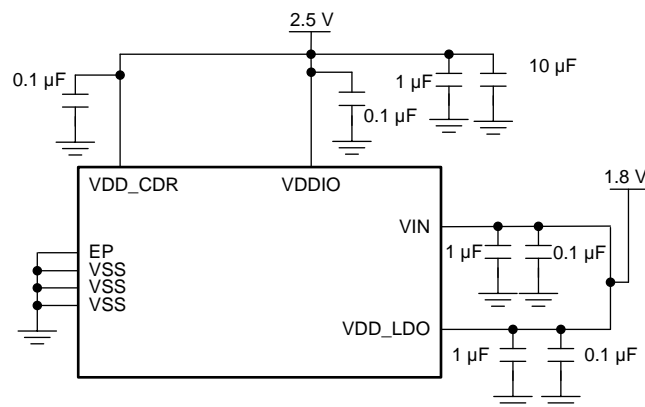

Figure 40. Typical Connection for Dual 2.5 V and 1.8 V Supply
- **Dual Supply Mode (2.5 V and 1.8 V):** This mode provides lower power consumption. In this mode, 1.8 V is connected to both VIN and VDD_LDO. VDD_CDR, and VDDIO are powered from a 2.5 V supply. See Figure 40 for more details.